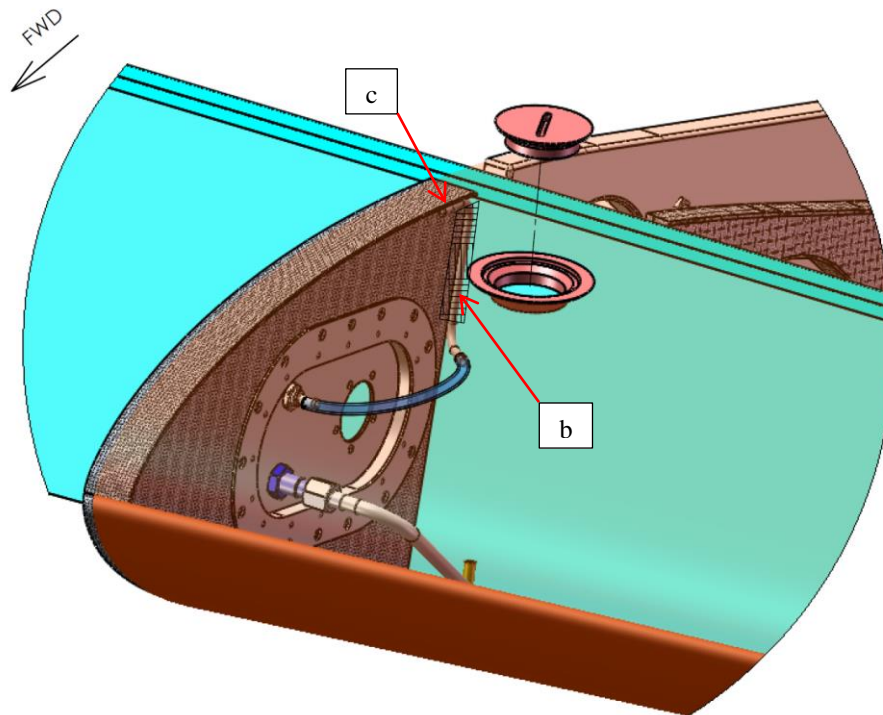

Figure 2: Fuel vent line system (LH)
3. Bond the XA42-2820-131/-132 (LH/RH) vent tube assembly as shown in Figure 2.
- b. Make sure the vertical part of the vent tube is in the corner between Spar and the root rib (See Figure 2).
- c. Make sure the last end of the tube is in the corner between the upper wing shell and the root rib (See Figure 2).
- d. Apply the sealer over the complete vertical part and when possible partly over the upper part. In those regions, cover the tube completely with sealer (See Figure 2).